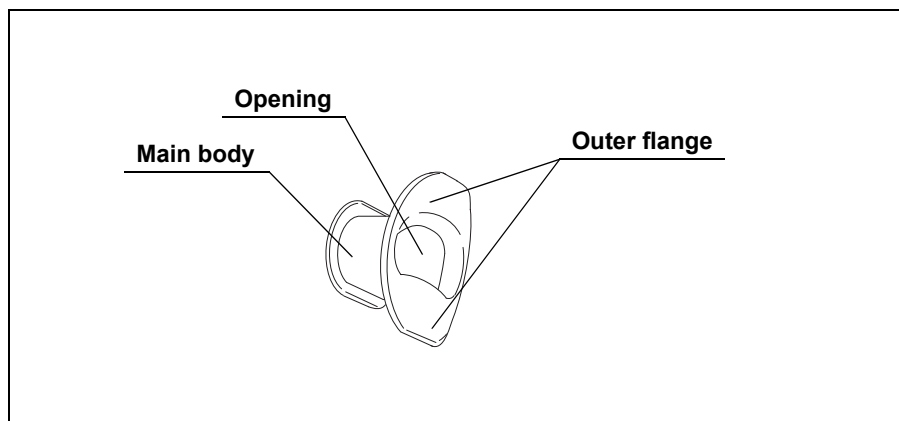

Figure 3.10
1. Confirm that the mouthpiece is free from cracks, deformations, or discoloration (see Figure 3.10).
2. Using your fingers, check all surfaces of the mouthpiece for scratches, cracks, or other irregularities (see Figure 3.10).